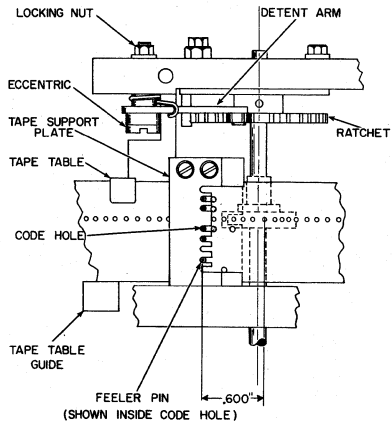

Figure 13
1. Loosen the detent eccentric's locking nut, turn the eccentric so that the code holes are concentric with the feeler pins (tape in reader) and tighten the locking nut (Figure 13).
1. The front pin wheel shaft assembly should have no more than .002" end play between the bearings. Shim the assembly, locating the pin wheel so that a tape in the reader has its code holes centered over the feeler pins (Figure 13).